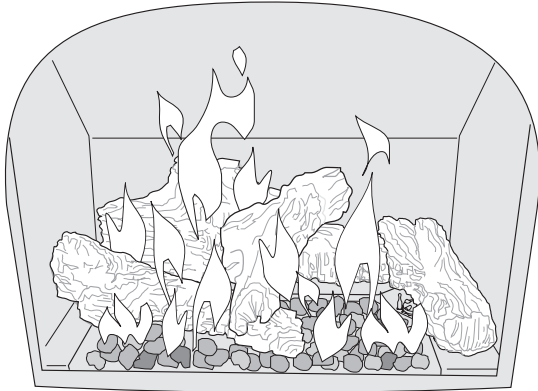

Figure 29. Flame appearance on the “high” setting after approximately 15 to 20 minutes burning.
3. **BURNER ADJUSTMENT:** This stove is equipped with a variable gas control valve that allows easy adjustment of the flame height appearance and heat output. To adjust the flame between the HI and LOW setting, rotate the HI/LOW knob, located in the center of the valve face. Fire intensity can be adjusted up to 50% between the LOW and HIGH settings. See fig. 29.